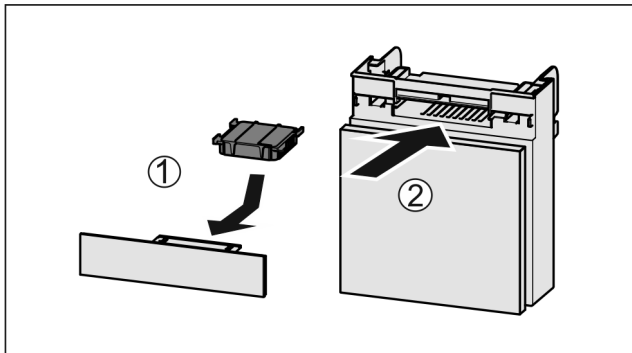

Fig. 165
- ▶ Insert the carbon filter as shown in the diagram Fig. 165 (1).
- ▶ Push the compartment in Fig. 165 (2).